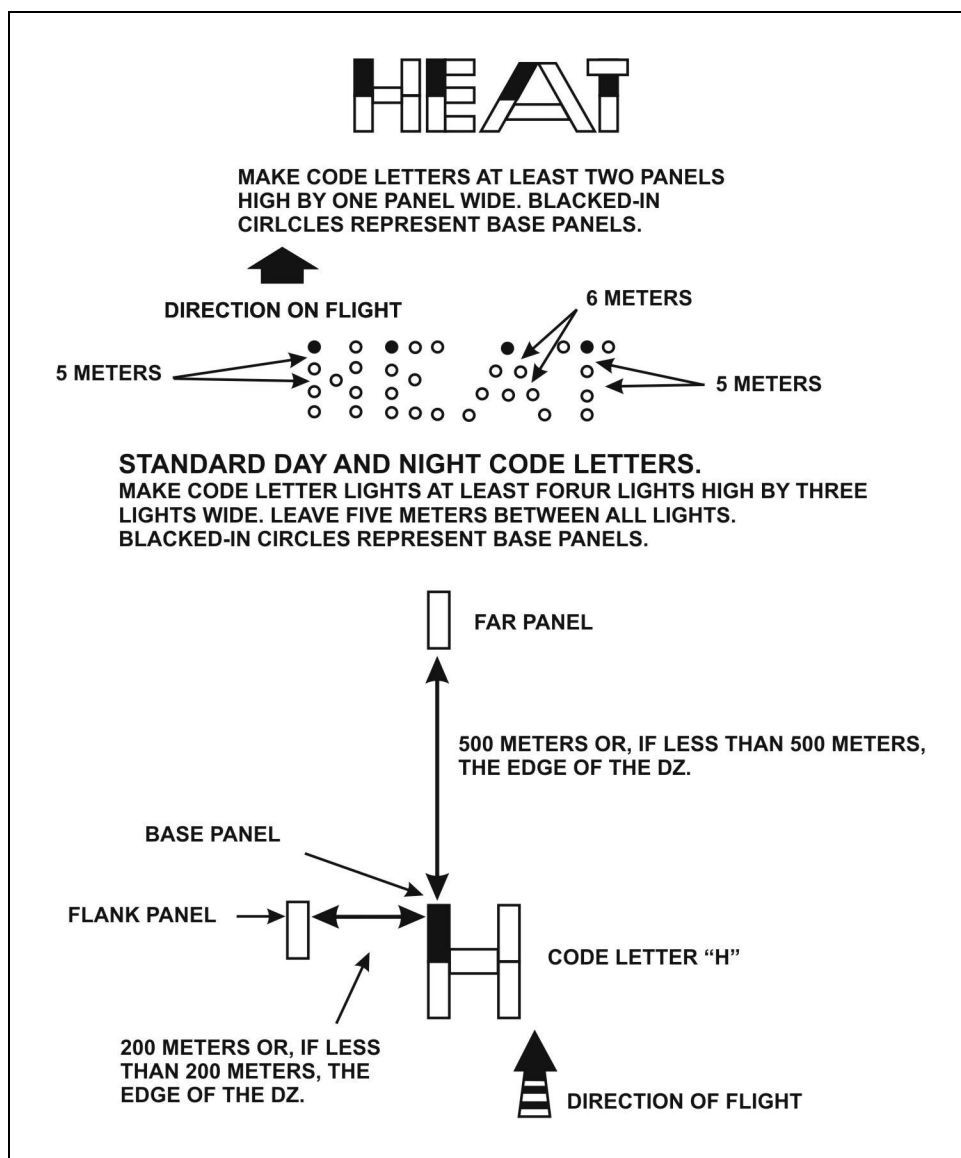

Figure 6-10. Horizontal clearance and marker construction.
(1) For example, suppose you must position a DZ marker near a terrain mask, such as the edge of a forest on the DZ approach. The trees measure 10 meters (33 feet) high. The markings would require 150 meters (492 feet) of horizontal clearance from the trees (Figure 6-10, page 6-24).
(2) If any of the GMRS markings fall within a 15-to-1 mask clearance ratio on the approach end of the drop zone, you can place an Army code letter (H, E, A, T) or a far (marker) panel on the trailing edge of a DZ. However, before doing so, you must have coordinated this during the DZST briefing or during an aircrew mission briefing. Using a code letter will distinguish this DZ from other DZs in the area. The code letter is located at the end of the DZ or where the pilot can see it best.
d. **Lights.** At night, replace panels with lights--use one light for each panel. Use directional lights for the approach, corner, alignment, and flanker. If necessary, you can use the directional light holes for the far code letter and line up the base light with the corner light. Figure 6-10 (page 6-24) provides construction requirements for Army code letters. Mark the release point with some type of identifiable light source to distinguish it from all other DZ markings.
a. Emplace a standard Army code letter with VS-17 panels (for daytime operations) at the release point. Position the base panel of this code letter exactly on the RP. Use code letter H, E, A, or T. Make the letter at least two panels high by one panel wide (Figure 6-10, page 6-24).